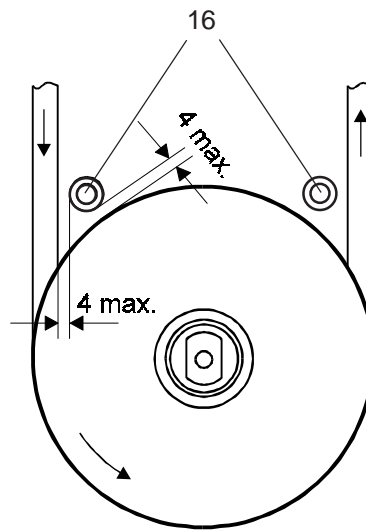

Fig. 6.9
- Move belt guides (16) on the belt entrance side inward far enough as to obtain a maximum distance of 4 mm from guide cylinder to belt pulley and from guide cylinder to belt, respectively (see Fig. 6.9)